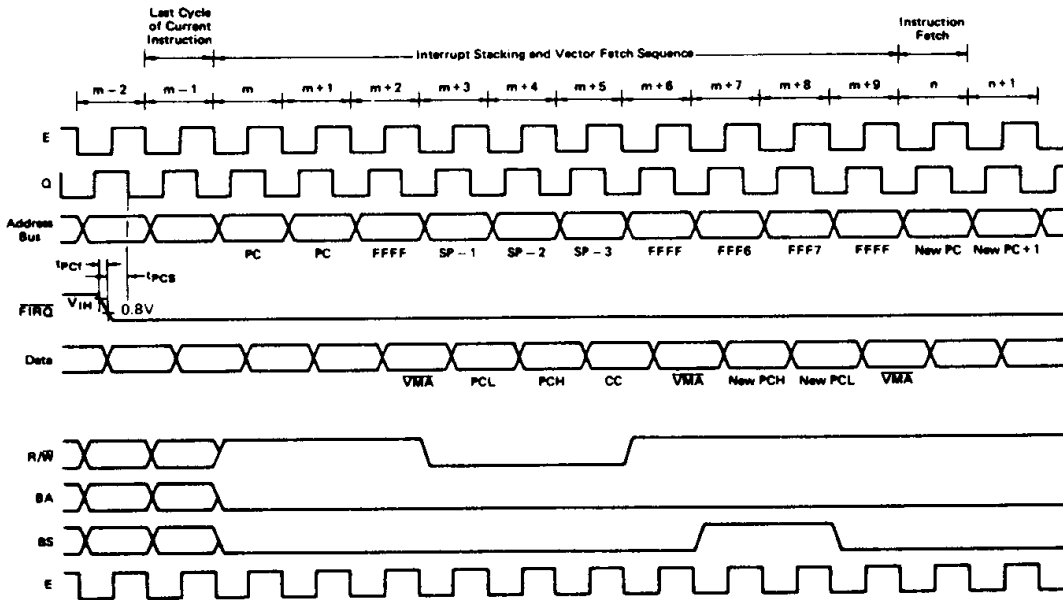

Figure 10 $\overline{\text{FIRQ}}$ Interrupt Timing
A “Low” level on this input pin will initiate a fast interrupt sequence provided its mask bit (F) in the CC is clear. This sequence has priority over the standard Interrupt Request ($\overline{\text{IRQ}}$), and is fast in the sense that it stacks only the contents of the condition code register and the program counter. The interrupt service routine should clear the source of the interrupt before doing an RTI. See Fig. 10.